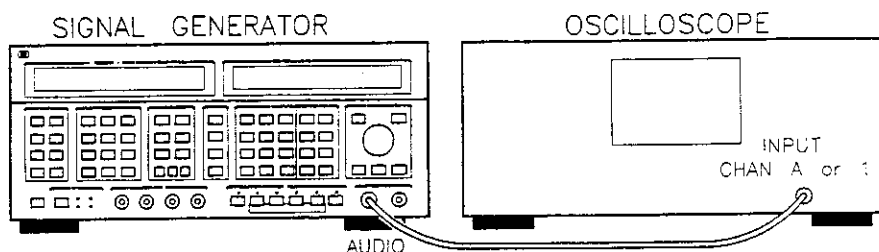

Figure 5-1. Equipment Setup for the Quick Demonstration
1. Connect the oscilloscope as shown in figure 5-1. Turn on the equipment and make the following adjustments: